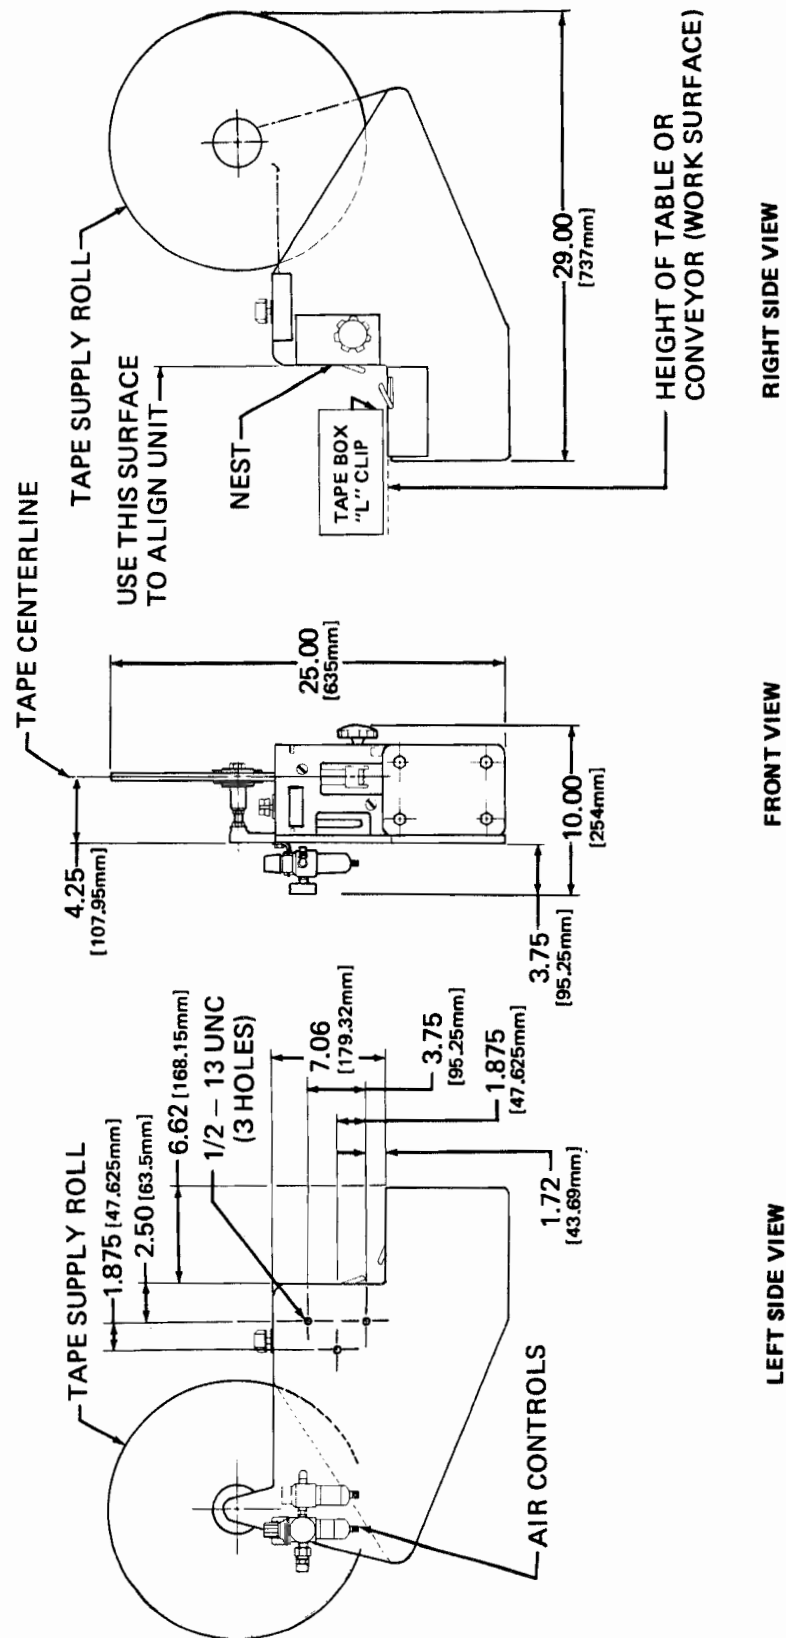

FIGURE 1 - MOUNTING - BOTTOM TAPING POSITION
Bottom Taping Position - Shown in Figure 1.
- A. There are three 1/2-13 UNC tapped holes provided in the main plate for mounting in each position. Refer to Figures 1 and 2 for mounting hole locations. The S-647 must be securely fastened to a stand or supports to obtain satisfactory operation.
When mounting the unit for bottom taping, align the vertical surface of the nest (see Fig. 1) perpendicular to the work surface.